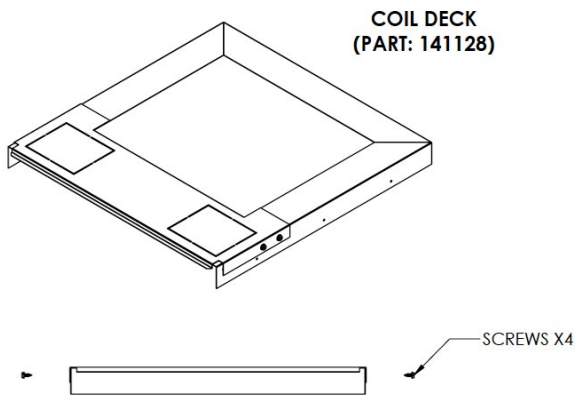

Fig. 4B-2A
**Step 2:** Configuring the Coil Deck Assembly, extend coil assembly when in a downflow configuration (Figure 4B-2B) and collapse the assembly when in an upflow configuration (Figure 4B-2C).